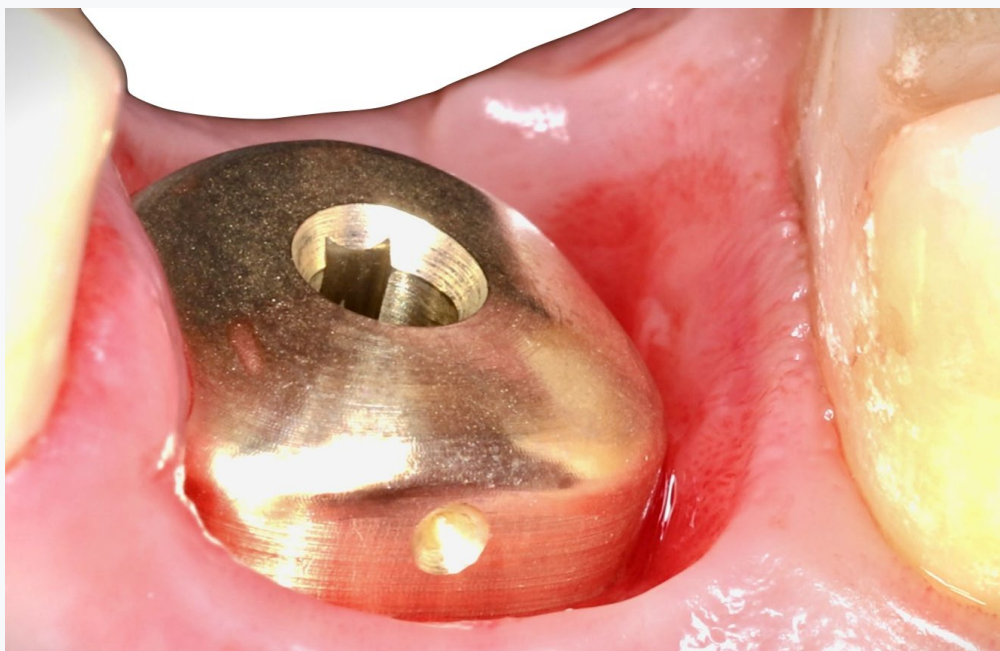

FIG. 13 Soft tissue contour after removal of the socket sealing resin cover.
- The same provisionalization protocol can also be applied to molars by creating a Socket Sealing Abutment (SSA) over the iPhysio®, allowing for better soft tissue stability and contour (Fig. 13).